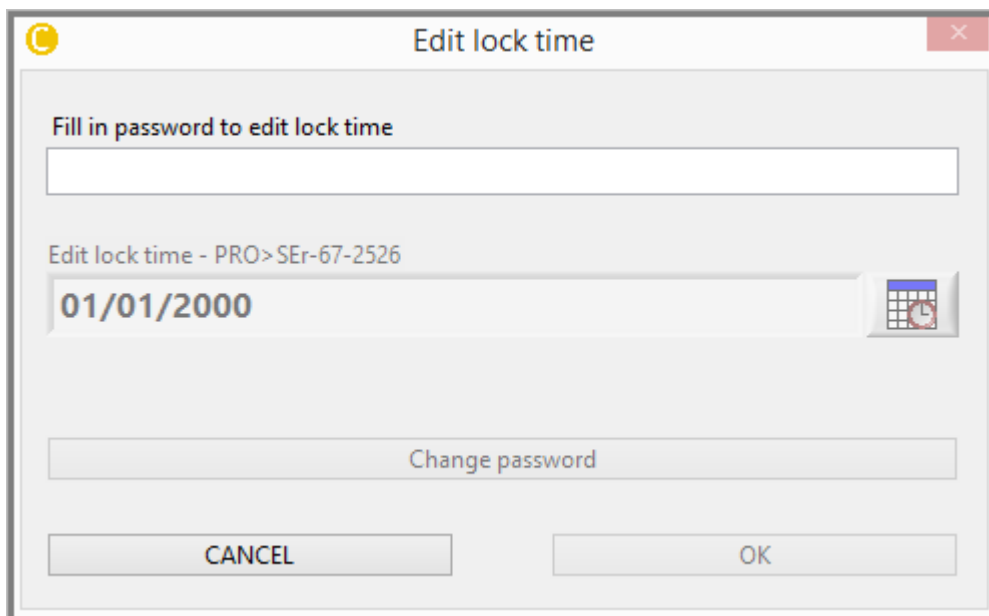

Figure 4-42 : HW setup TAB - Lock
2. Lock older measurements : By pushing this button a window, pop up as shown in Figure 4-42 called Edit lock allowing you to set a key (password). With this setup you can secure previous measurements in the monitor flash